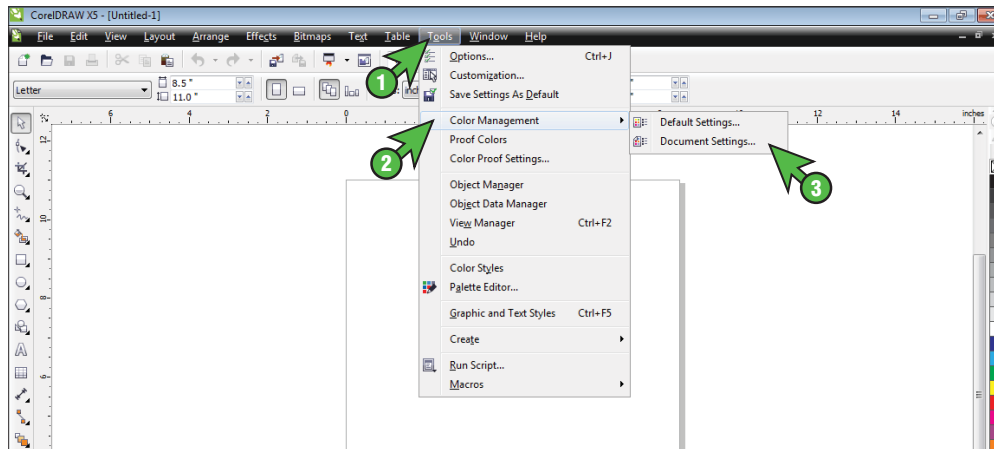

FIGURE 5
- 5.) In the Menu Bar, click **Tools > Color Management > Document Settings** (see *FIGURE 5*).